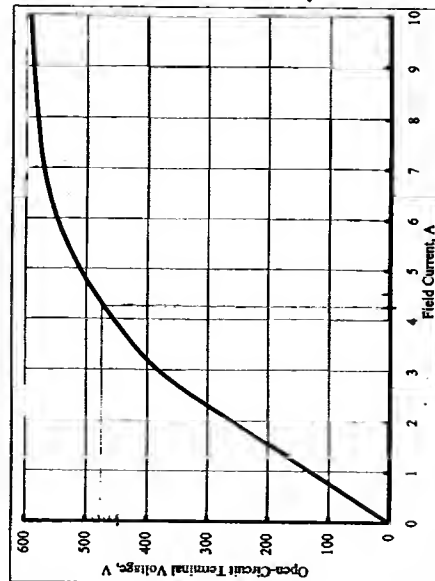

Fig. 2. Open-circuit characteristic of the generator in Question 2.
- 30 2. A 480 V, 60 Hz, Δ -connected, 4-pole synchronous generator has the open-circuit characteristic shown in Fig. 2. This generator has a synchronous reactance of 0.11Ω and an armature resistance of 0.016Ω . At full-load, the machine supplies 1200 A at 0.8 PF lagging. Under full-load conditions, the friction and windage losses are 40 kW, and the core losses are 30 kW. Ignore any field circuit losses.